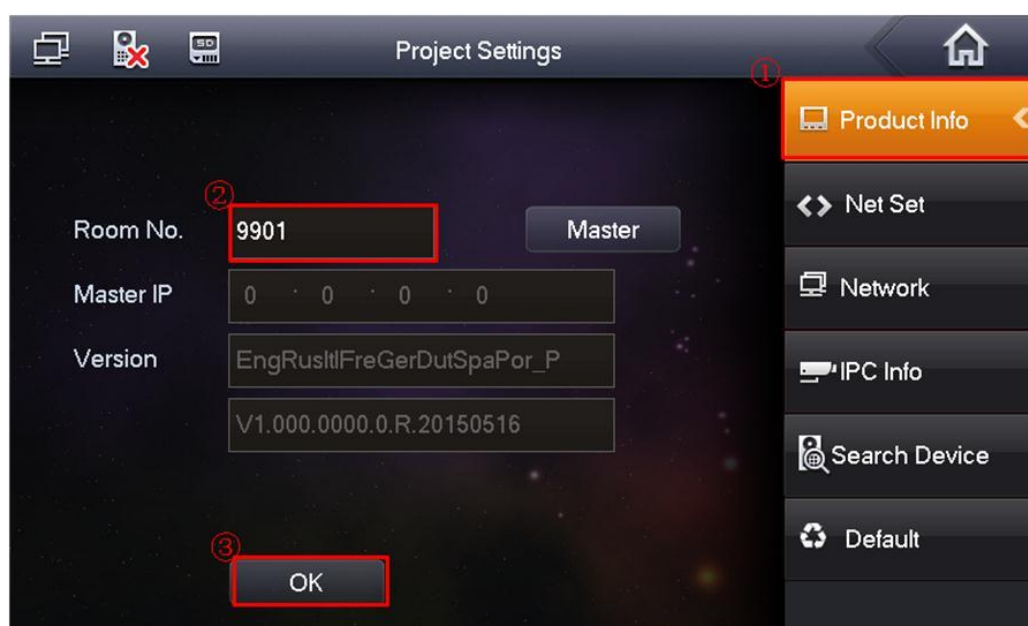

Figure 2-8
- c) Set current VTH as the master VTH. See Figure 2-8.